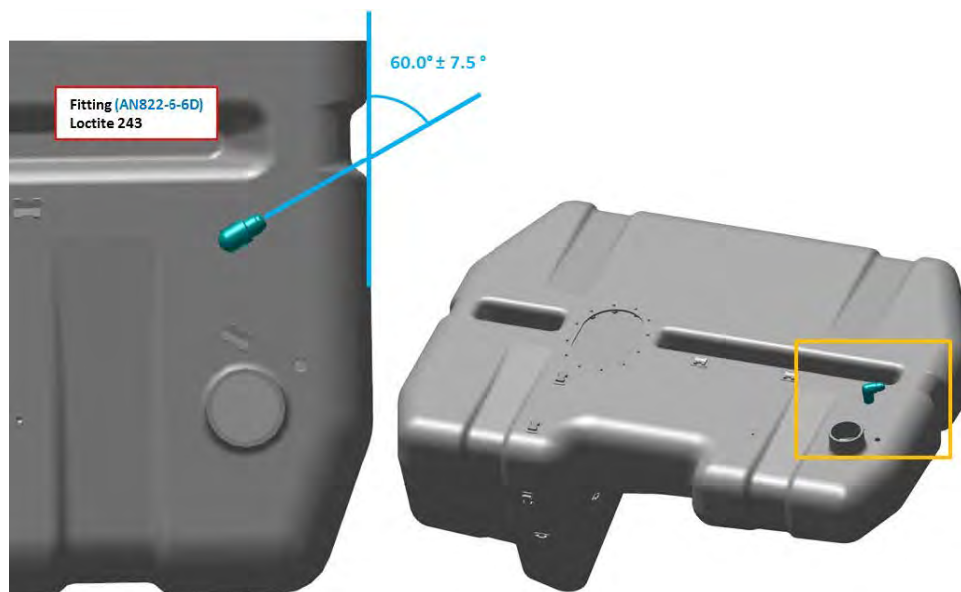

FIGURE 11-16
5. Install the 3/8 FLARED TUBE ELBOW FITTING into the Fuel Tank as shown in Figure 11-16 and as follows: